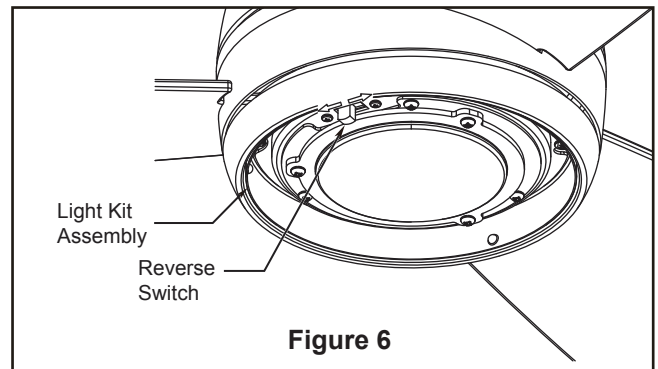

Figure 6
5. Attach the safety cable to ceiling support cable. Slide cable clamp onto safety cable (from fan). Place the end of cable through the loop of ceiling support cable. Pull as much cable through loop as possible. Feed end of cable into clamp hole and firmly tighten screw (Figure 6). Cut off excess safety cable.
6. Remove the three screws in the upper LED plate assembly and retain the screws for later. (Figure 6)
- ### 6. If airflow is desired in the opposite direction, turn the fan off and wait for the blades to stop turning. Remove glass or plastic cap from light kit, then slide the reverse switch inside the light kit assembly to the opposite position reinstall glass or plastic cap. Turn fan on again. (Figure 6)